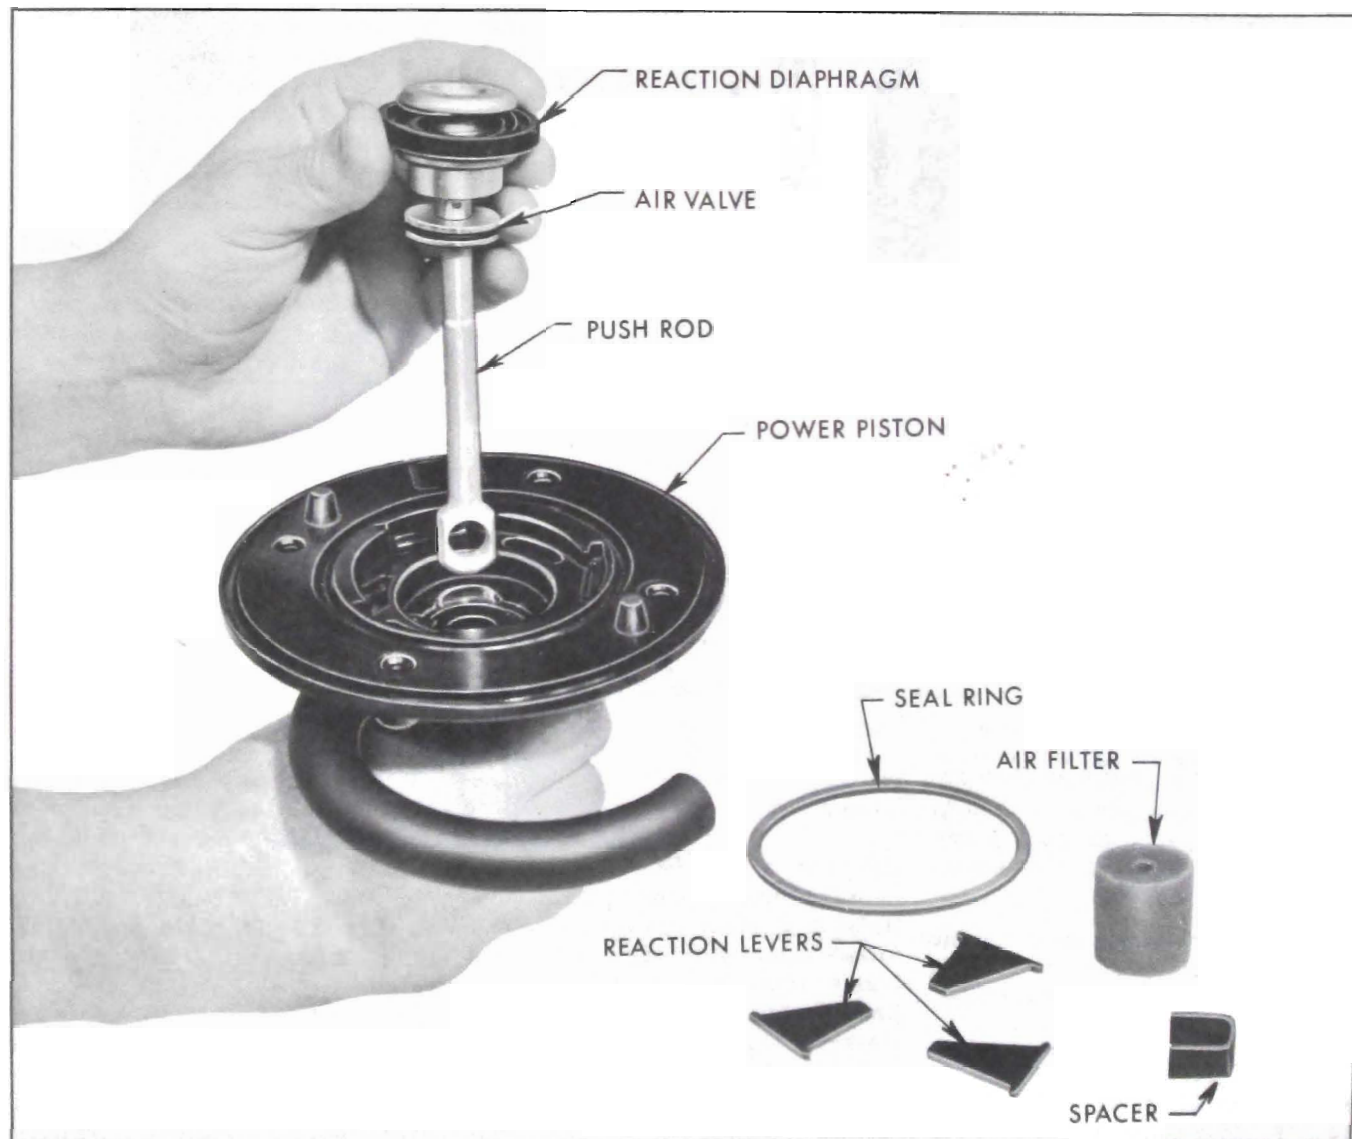

Figure 9-21—Removing Power Piston Parts
10. From power piston assembly remove three reaction levers. Remove power piston seal ring. See Figure 9-21.